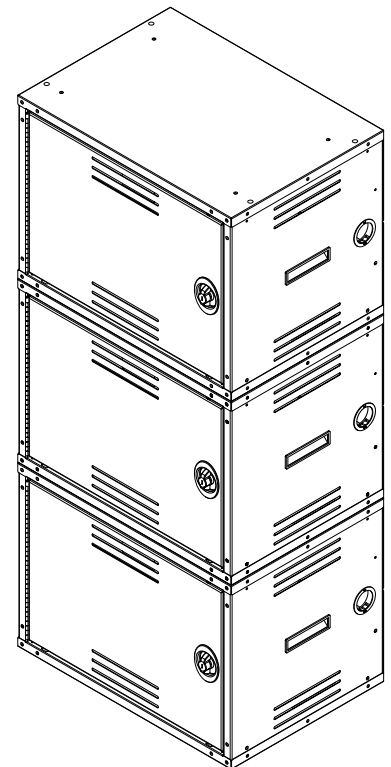

Figure 2
3. Tighten fasteners securely. **Figure 2.**
Note: The 3/8" mounting holes located on the back panel are for stabilizing the unit(s) (up to 3 high only) to a wall and are 16" on-center to match most wall construction stud spacing. Figure 2. Be sure fasteners are anchored securely to studs or other solid portion of the wall.